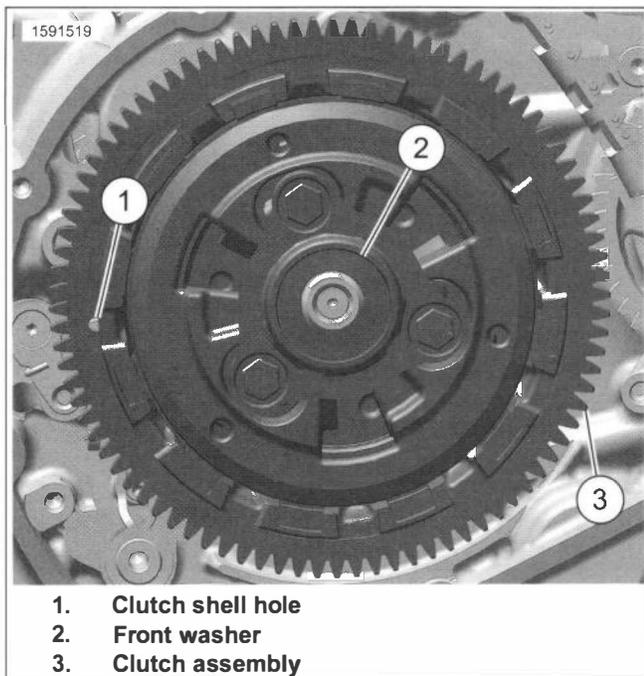

Figure 5-16. Clutch Removal
4. See Figure 5-16. Insert a suitable awl or screwdriver into the clutch shell hole (1).
6. Capture the front washer (2).
7. Pull the clutch assembly (3) outward, as you pull slide your hands behind the shell.